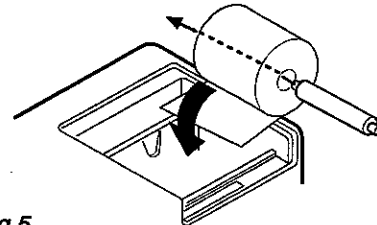

Fig.5
3. Attach the roll core to the paper. Place the paper in the paper holder as shown in Fig.5.